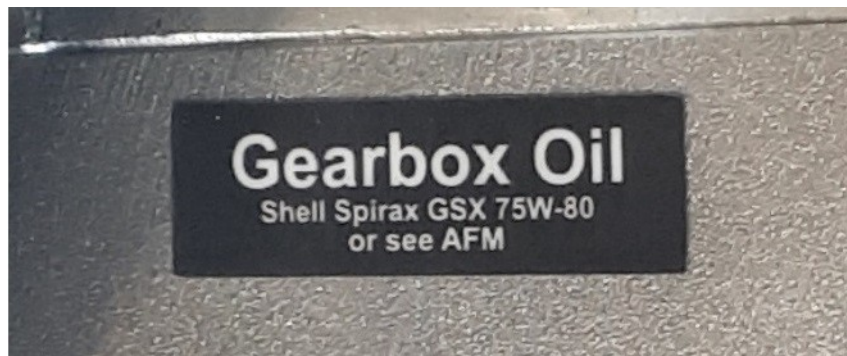

Figure 2. Correct gearbox oil placard.
4. If the placard on the gearbox matches the placard in Figure 2, proceed to step 7.
5. If the placard currently installed on the gearbox does not match the placard shown in Figure 2, replace the placard with placard P/N D64-1126-20-27: